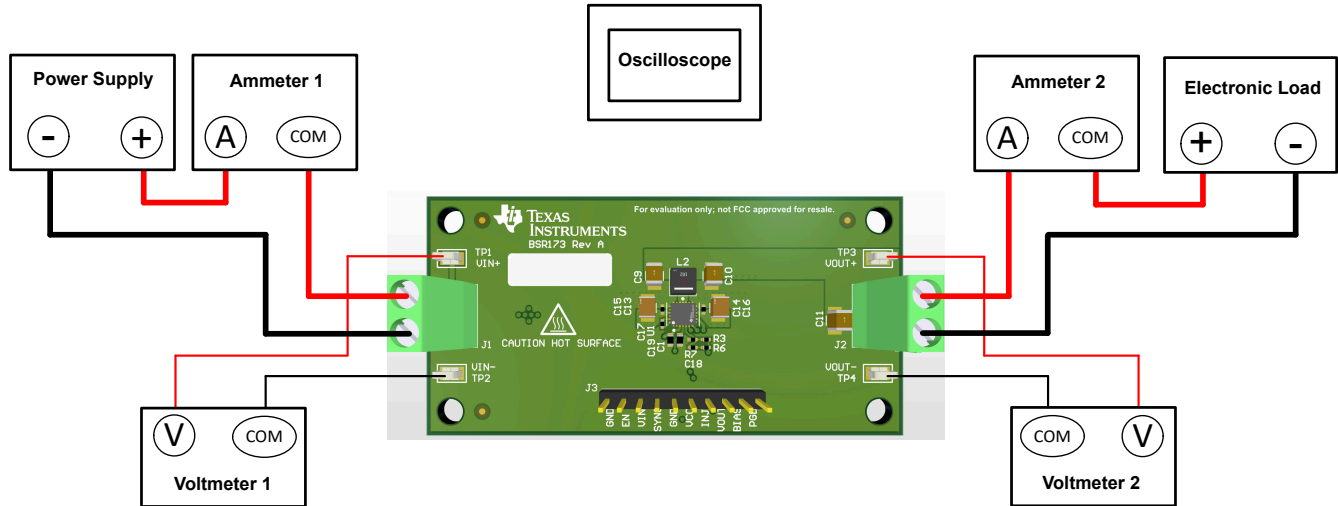

Figure 4-1. EVM Test Setup
Referencing the EVM connections described in Table 4-1, use the recommended test setup in Figure 4-1 to evaluate the LM63460-Q1 and LM64460-Q1 converter. Working at an ESD-protected workstation, make sure that any wrist straps, bootstraps, or mats are connected and referencing the user to earth ground before power is applied to the EVM.
- Prior to connecting the DC input source, set the current limit of the input supply to 0.1-A maximum. Ensure the input source is initially set to 0 V and connected to the VIN+ and VIN– connection points as shown in Figure 4-1.
- Connect an electronic load to the VOUT+ and VOUT– connections as shown in Figure 4-1. Set the load to constant-resistance mode or constant-current mode at 0 A before applying input voltage.